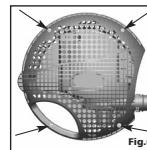

Fig.6
##### Opening and Closing the Pump Cage (see Fig. 6)
- Remove the pump cage from the pond, unlock the pivot pin fasteners (Fig. 6) and remove the upper half of the cage. Clean all components with streaming water from a garden hose. Reassemble all components with care